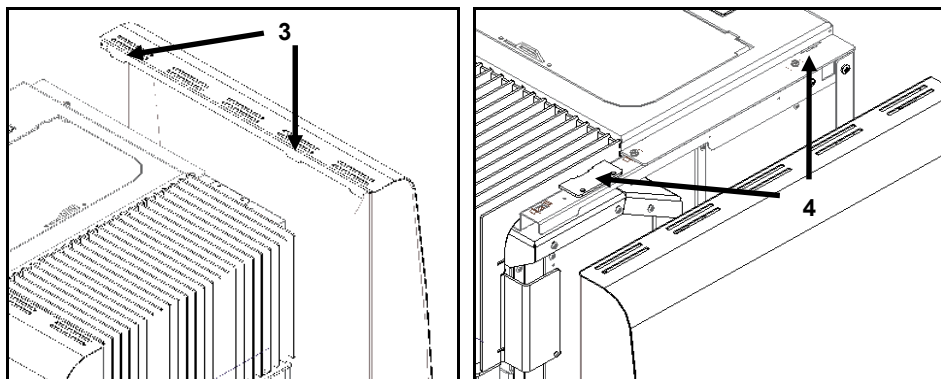

Figure 101 – Assembly of the covers
d) Then fit the lower holes **1** of the side covers into the guides **2** at the bottom of the machine, and then in the downward direction fit the tabs **3** into the slots **4** as shown in Figure 101.